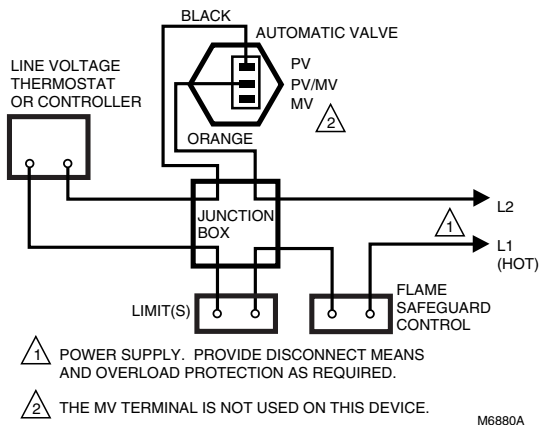

Fig. 8. Typical wiring diagram for V4943A Valve.
1. De-energize the control system to make sure there is no power to the safety shutoff valve (C) shown in Fig. 8.
2. Close the upstream manual gas cock (A).
3. Make sure the manual test petcock (F) is closed in the leak test tap assembly (D).
4. Remove the leak test tap plug (valve outlet pressure tap can be used as a test tap) and connect the test apparatus to the leak test tap (D).
5. Close the downstream manual gas cock (E).
6. Open the upstream manual gas cock (A).
7. Run the safety shutoff valve (C) to its fully open position (through the safety system); then immediately de-energize the system to close the valve.
9. Slowly open the test petcock (F).
6. Refer to Fig. 8 and 9 for typical field wiring connections. Follow the burner manufacturer wiring diagram if provided.